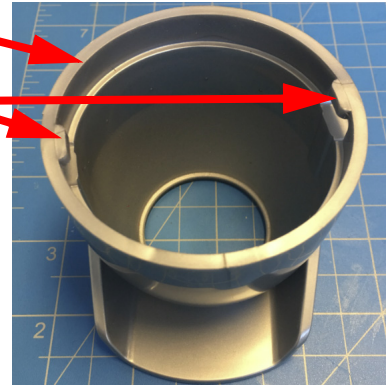
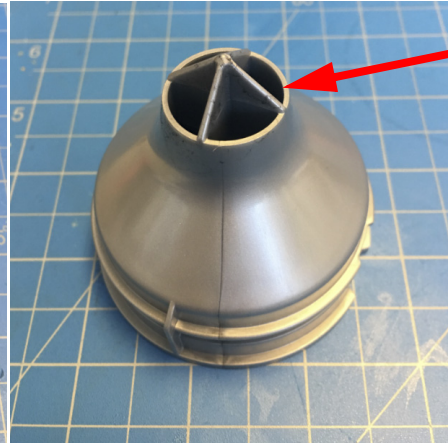

Figure 15
Figure 16
Result: The valve nozzle is removed from the unit, as shown in Figure 16.
Note that the top of the valve nozzle is notched to line-up with the valve nozzle housing tabs (shown in Figure 15) when these components are placed back into the unit.
10. Gather the clean valve nozzle components (valve nozzle housing, valve nozzle and diffuser) and spray them with a sanitizing solution (see "Soap and Sanitizing Solutions" on page 10). Then, replace these components back into the unit. To replace these components back into the unit, do the following: •) Push the diffuser on to the nozzle base so that the diffuser gasket is against the nozzle base. See Figure 17. •) With the diffuser in place, place the valve nozzle in the valve nozzle housing so that the notches in the valve nozzle line up with the tabs of the housing. See Figure 15 and Figure 16, above. •) Finally, place the valve nozzle housing (with the valve nozzle inside) over nozzle base (shown in Figure 17) and turn the housing approximately 1/4 turn (counter-clockwise) to secure the housing to the nozzle base.